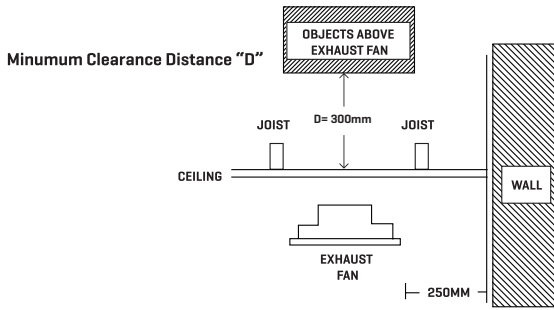

FIGURE 1
6. There must be adequate clearances. Make sure a minimum of 250mm is maintained between the appliance and any wall. There should be a minimum of 300 mm height clearance in the ceiling for objects above the housing. A minimum of 30mm clearance is required around the hole for the fan, the vertical sides of the appliance and any adjoining parts of the roof structure, such as joists or insulation batts. Refer also Figure 1. Dimensions below.